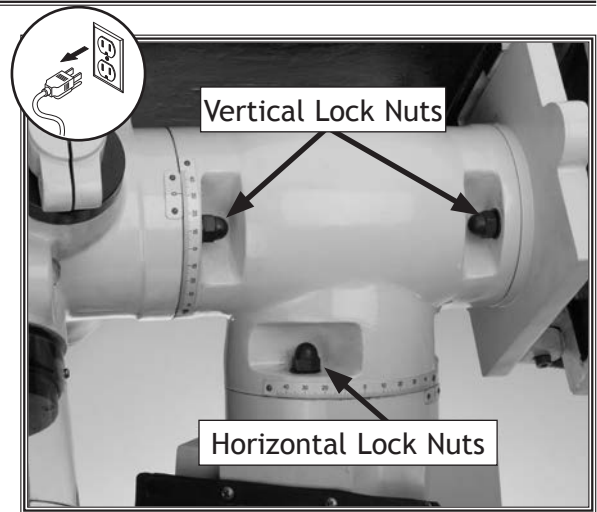

Figure 14. Vertical and horizontal headstock lock nuts.
3. Loosen the four nuts that lock the headstock in place with a 17mm wrench (see **Figure 14** on next page).
3. Using a 17mm wrench, loosen the three locking nuts shown in **Figure 14**.